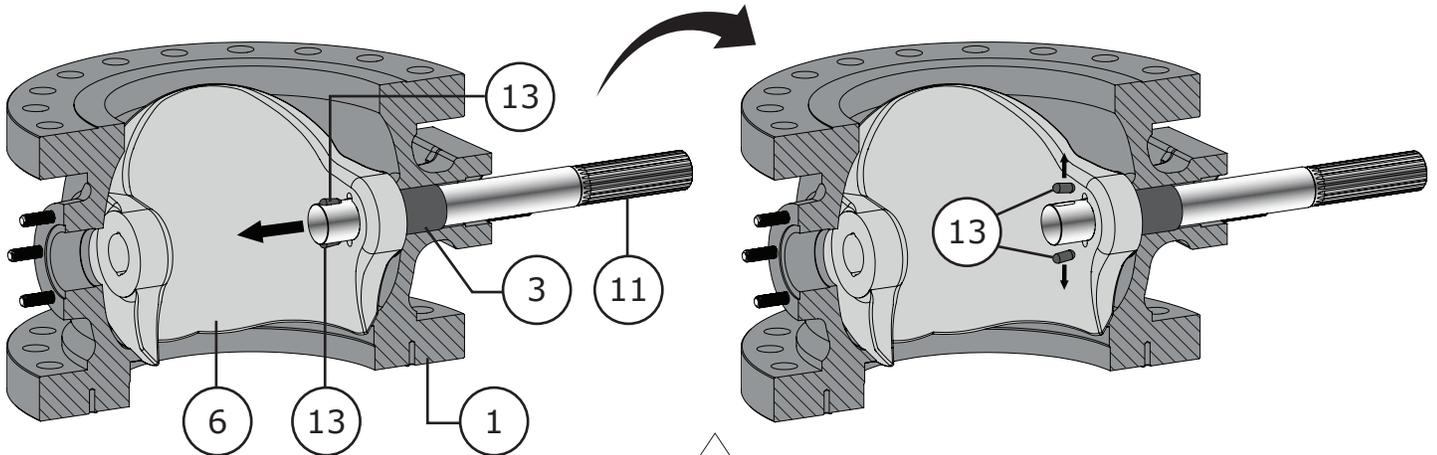

Figure 26 16 Inch Drive Shaft Pin Removal
- Continue to support the ball (Key 6). It is important to have a lifting device in place to prevent the ball from falling or being damaged while the drive shaft (Key 11) is being removed. Push the drive shaft back in to the valve body (Key 1) until the shaft pins (Key 13) can be removed. Refer to Figure 26.